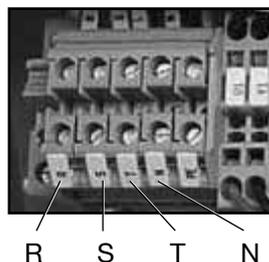

Fig. 12
**Step 2:** connect the 3 phase AC input + Neutral power leads to terminals R, S, T, N input on **Terminal board** (Fig. 12).